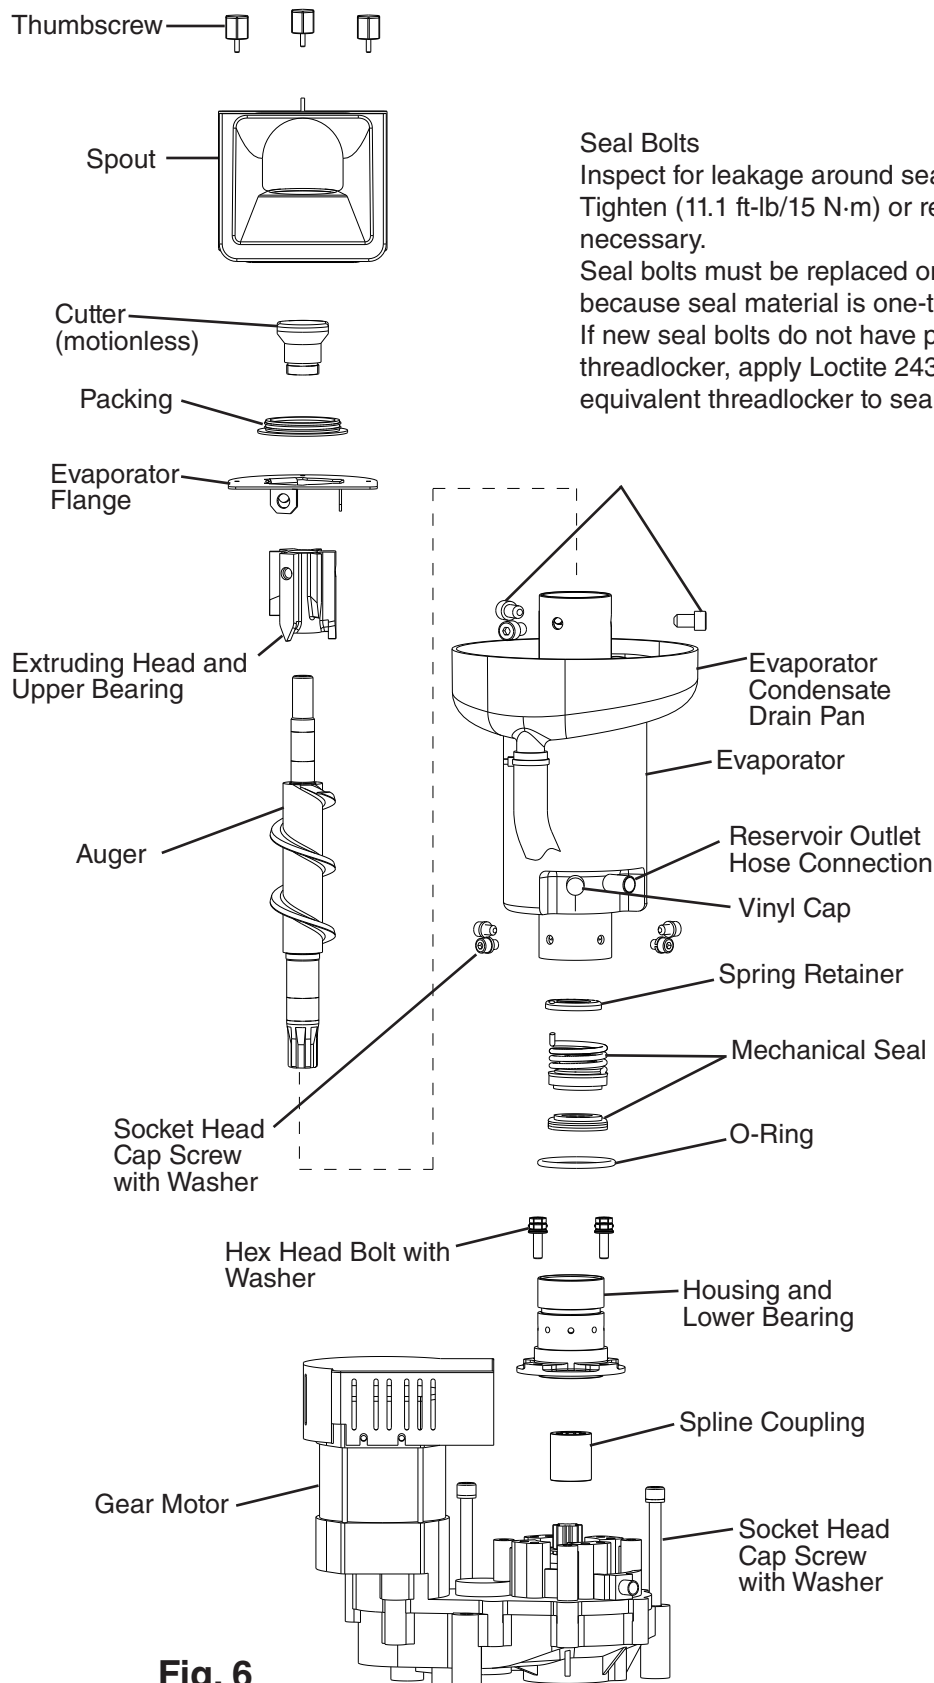

Fig. 6
- 13) Replace the extruding head (with cutter), and evaporator flange in their correct positions. Confirm the cutter is tight. See Fig. 6.
- 24) Install the auger assembly with the upper part of the mechanical seal attached. Replace the cutter, extruding head, and evaporator flange in their correct positions and align the extruding head and evaporator flange holes. See Fig. 6.